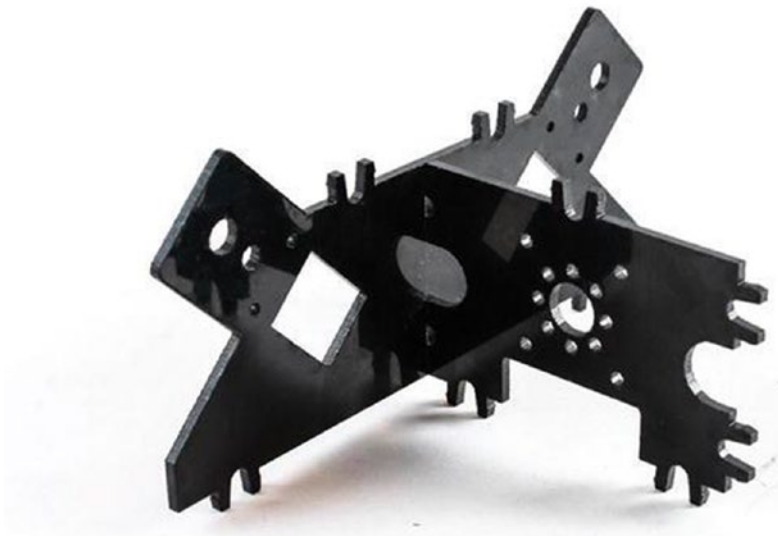

Figure 7-2. *Center support attached to an outer plate*
1. Attach the center support to one of the sides. Make sure that the course side is facing out. Take note of the tabs on the center support. The single pair of tabs attaches to the bottom plate (see Figure 7-2).